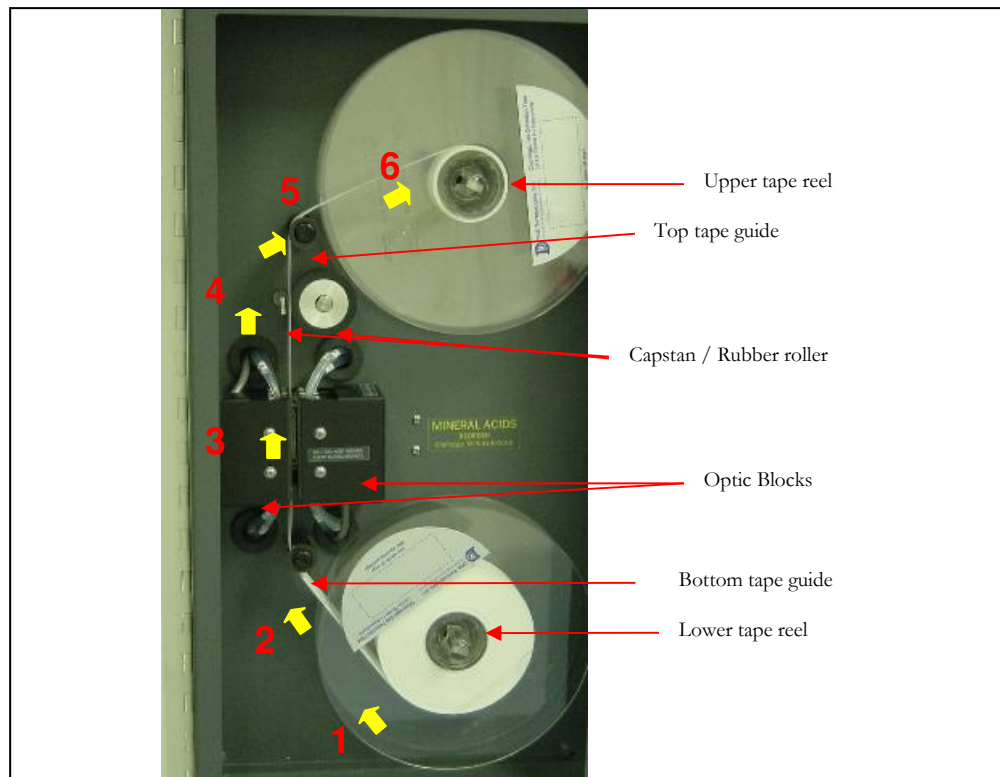

Figure 6.1
- F. Secure the new ChemLogic tape reel on the bottom as shown in figure 6.1. The tape should be around the bottom in a clockwise direction as shown.
- G. Feed the tape as shown with the arrows in figure 6.1.